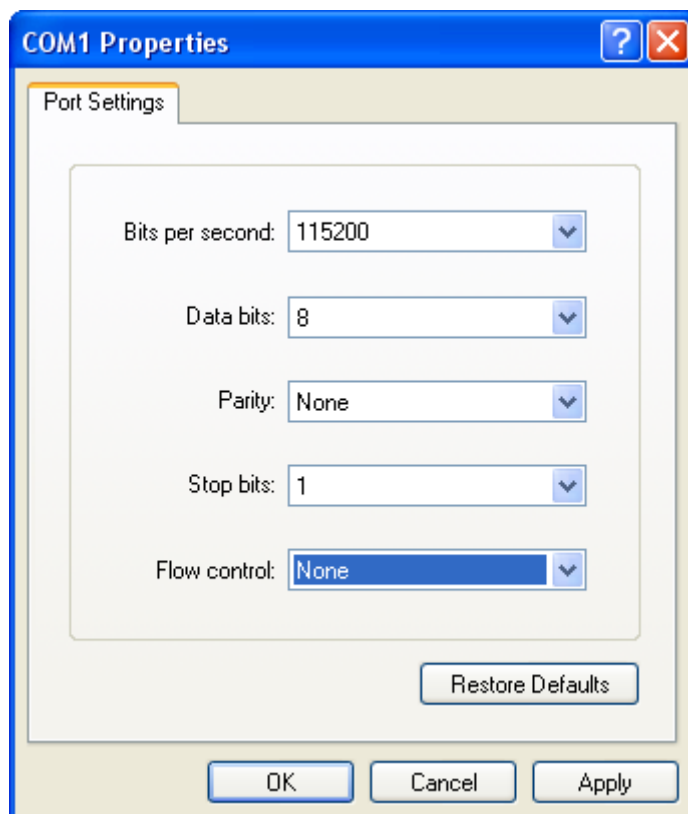

Fig. 3.3 Serial ports parameter setup
Step 3”: to select the communication port. Select “com1” communication port in Fig3.2, press “OK”, the dialogue box as Fig. 3.3 will appear.